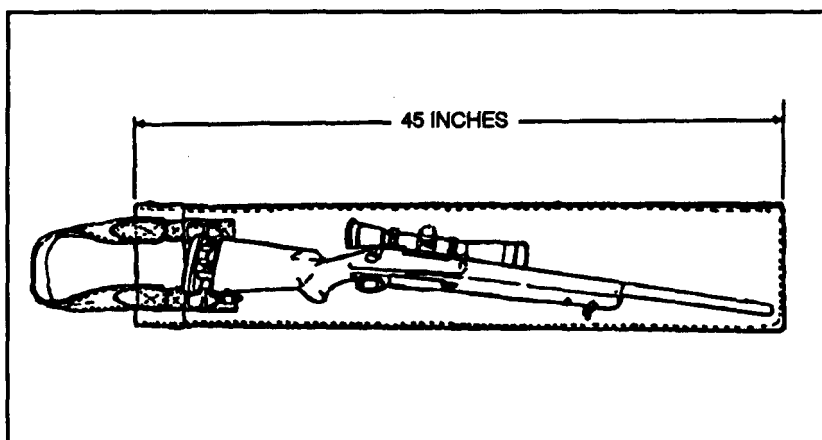

Figure 4-2. Drag bag.
(1) **Rifles.** The sniper weapon system and the M16/M203 should also be camouflaged to break up their outlines. The sniper weapon system can be carried in a “drag bag” (Figure 4-2), which is a rifle case made of canvas and covered with garnish similar to the ghillie suit.